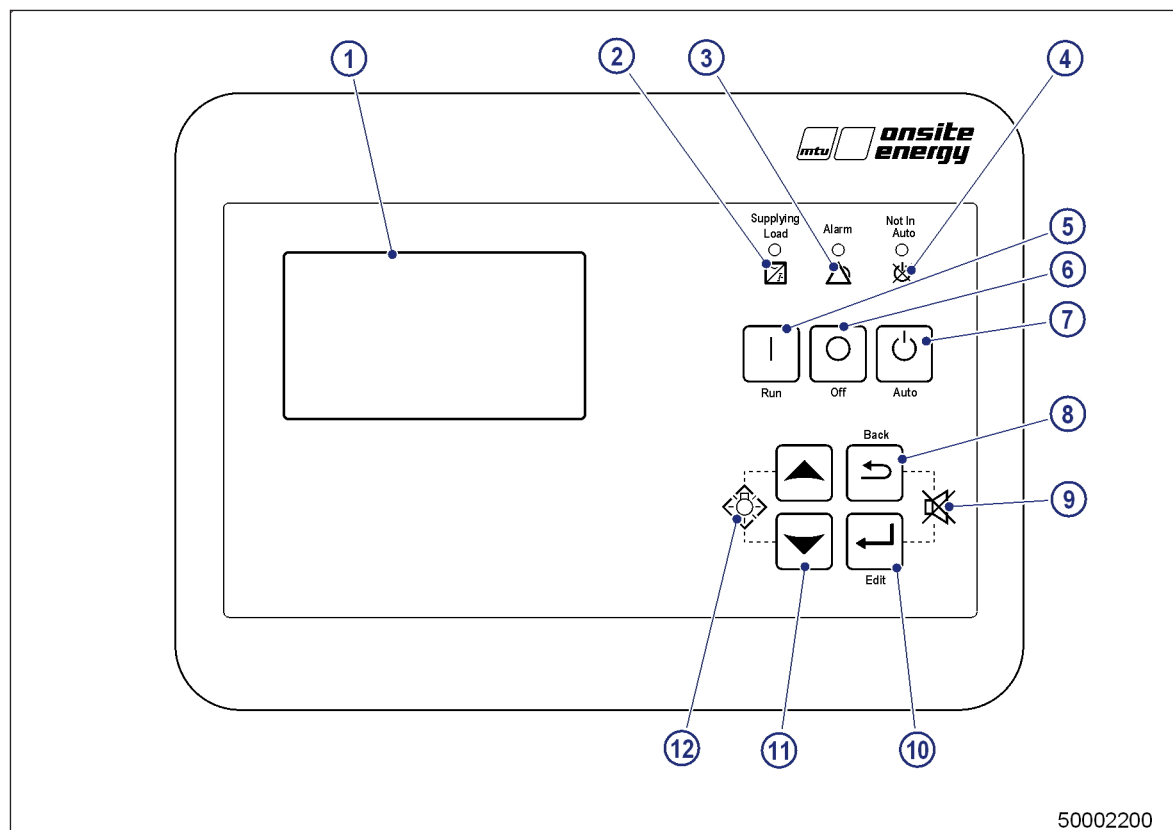

Figure 8: Control panel with MGC-1500 Series – Controls and indicators
The wide temperature-range LCD with backlighting can be viewed under a wide range of ambient light and temperature conditions. The figure (→ Figure 8) shows the display of the MGC-1500 Series in detail.
* Numbers correspond to (→ Figure 8).